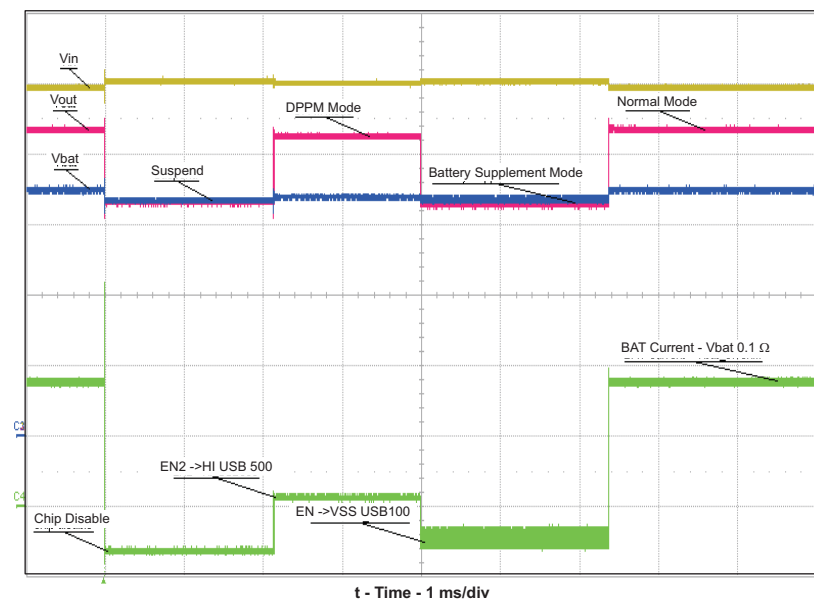

Figure 2. Modes of Operation Tested in Steps 11 Through 13
6. Verify that V_{OUT} for bq24072 is ~ 200 mV above the battery voltage or a minimum of 3.4 Vdc. For bq24073/4 verify that V_{OUT} is ~ 4.4 Vdc. Verify that bq24075/9(T) is ~ 5.5 Vdc for $V_{IN} > 5.6$ V and equal to V_{IN} for $V_{IN} < 5.6$ V.
10. Set JMP5 (EN1) to HI, and verify that the chip has been disabled, D1 (CHG) has turned off, and the P/S#1 current has dropped to zero. The internal battery FET must be on, connecting the BAT pin to the OUT pin. Verify that the voltage on the OUT pin is close to the battery voltage. See Figure 2 for EN1/2 modes of operation.